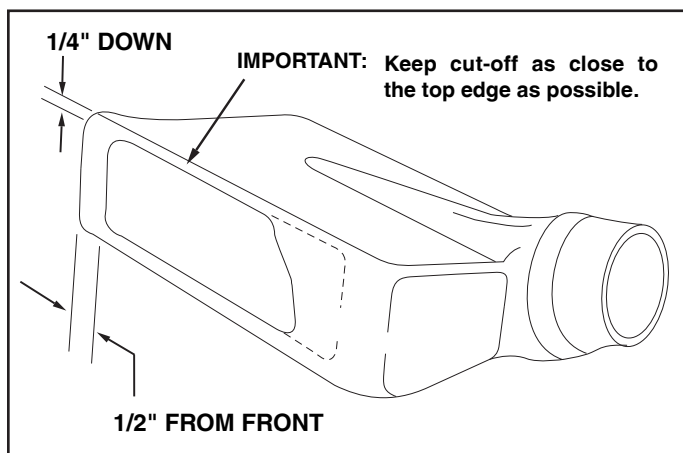

FIGURE 29
4. Tape the template to the face of the adapter, about 1/2" from front and 1/4" down from top for deeper decks. For shallow decks, position template low enough that adapter will not extend below bottom of deck. Mark outline of template on face of adapter using white crayon, nail or scribe. Drill a starting hole inside the outline, then use a saber saw or key hole saw to cut out the opening. See figure 29.